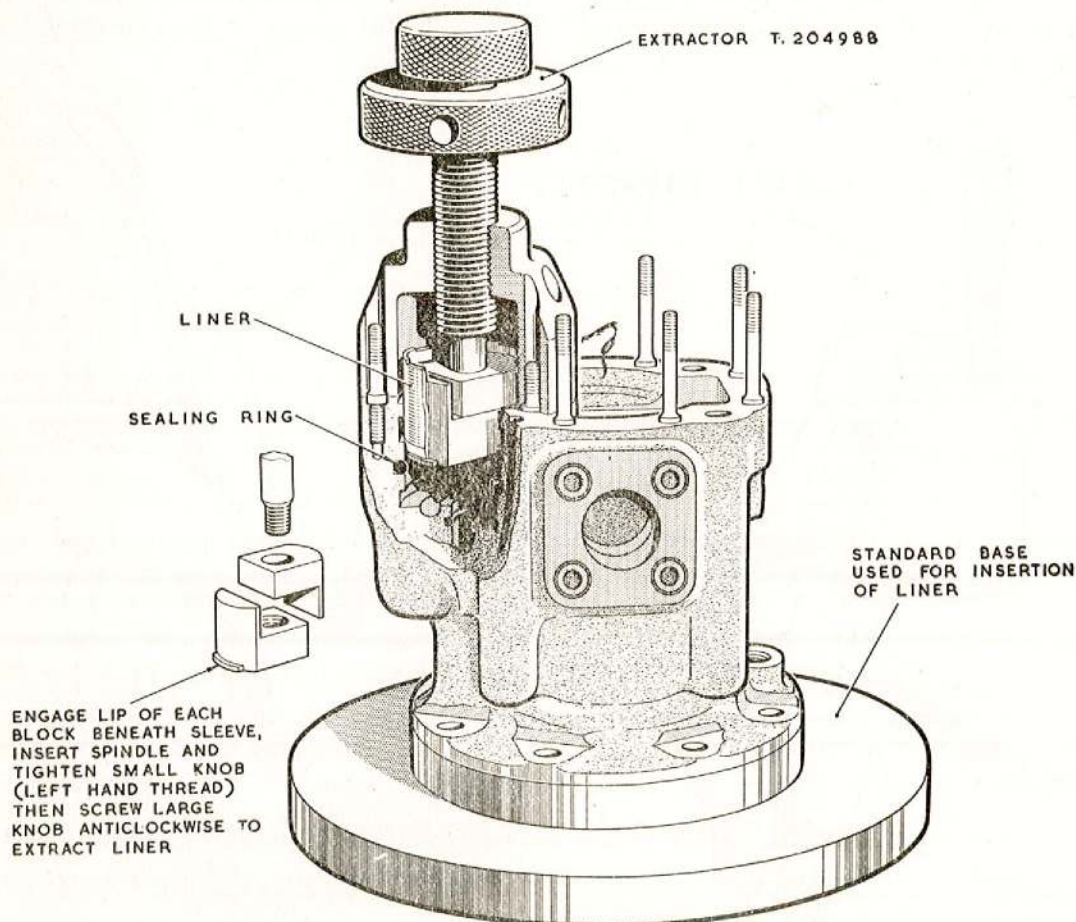

Fig. 16. Removing the control cylinder liner
47. The control cylinder liner is removed with extractor tool T.204988, having two lipped blocks which can be expanded to engage the lips under the inner end of the liner as shown in fig. 16. The tool is used as follows:—